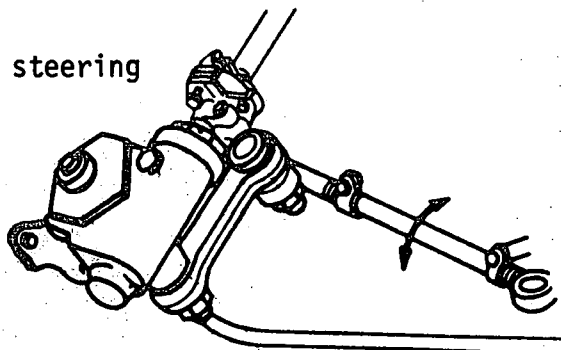

Fig. 7
- d) Turn the steering rod to screw it into, or unscrew it from the end (fig. 7), until the reading indicated by the manufacturer is obtained.